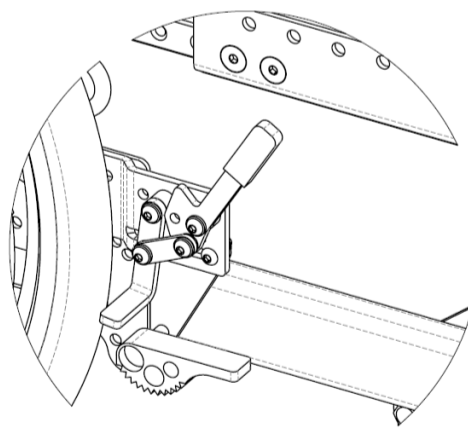

Figure 14.39: Wheel Lock with Anti-Rollback Device
6. To engage the anti-rollback device (Figure 14.39), push the anti-rollback cam into the down position.